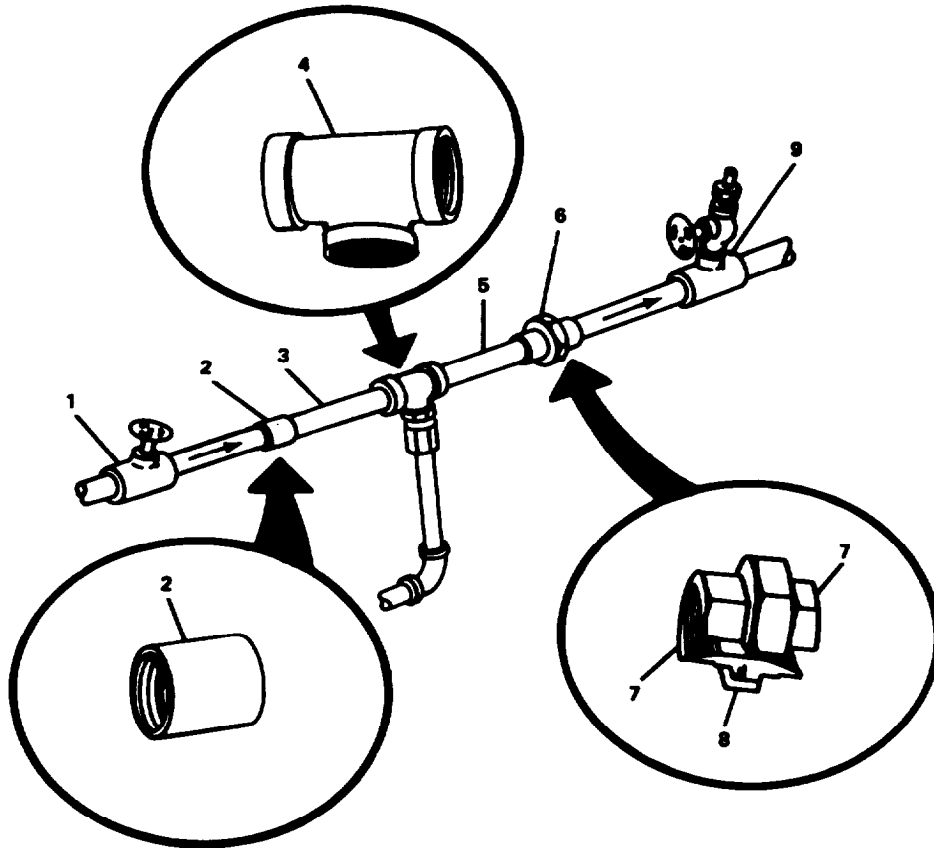

FIGURE 2-251. Repair Threaded Fittings (Typical).
- (1) Remove warning tags.
- (2) Operate system; refer to TM 55-1905-223-10.
- (3) Open shutoff valves (1) and (13).
- (4) Check for leaks in system and retighten connections as necessary.
**2-320. Repair Threaded Fittings. (FIGURE 2-251)**